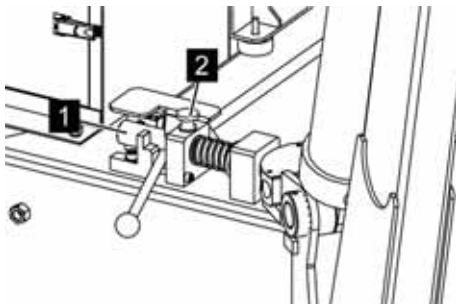

Fig. 60: Latching
4. ➔ Put the latching bolt (Fig. 60/1) into the position shown (Fig. 60) and let the locking pin (Fig. 60/2) snap in.